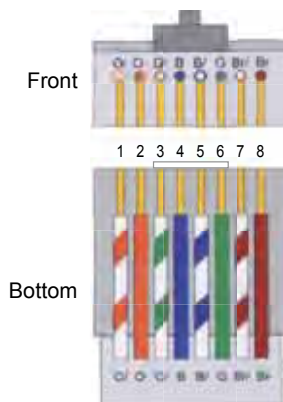

Figure 4-12 T-568B Compliant Ethernet Cable
- Connect the inverter's Ethernet port to a hub or router. Ethernet cables must meet the T-568B wiring standard and must be less than 300 feet in length. See Figure 4-12.